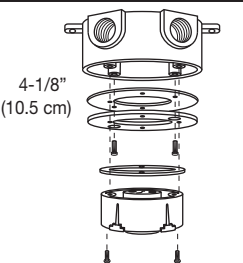

Figure 3
4. Position the glass globe gasket around the lampholder socket so that it rests on the bottom of the socket assembly (Figure 3).
5. Screw the lamp into the lampholder socket. Use a standard medium base incandescent lamp. (VAG-01-C: 100 WATTS MAX, VAG-02-C: 200 WATTS MAX. BOTH ARE ALSO COMPATIBLE WITH MOST SELF-BALLASTED COMPACT FLUORESCENT LAMPS.) (Figure 3)